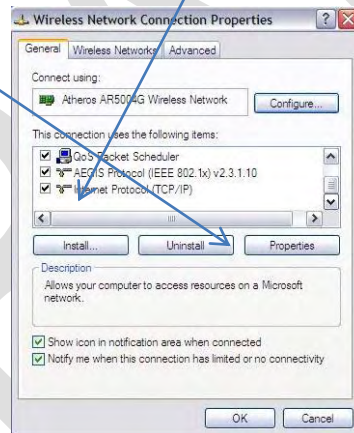

Fig 9
- c. When the Properties window opens click "**Internet Protocol (TCP/IP)**" to bring it into focus and then select "**Properties**" (Fig 9)